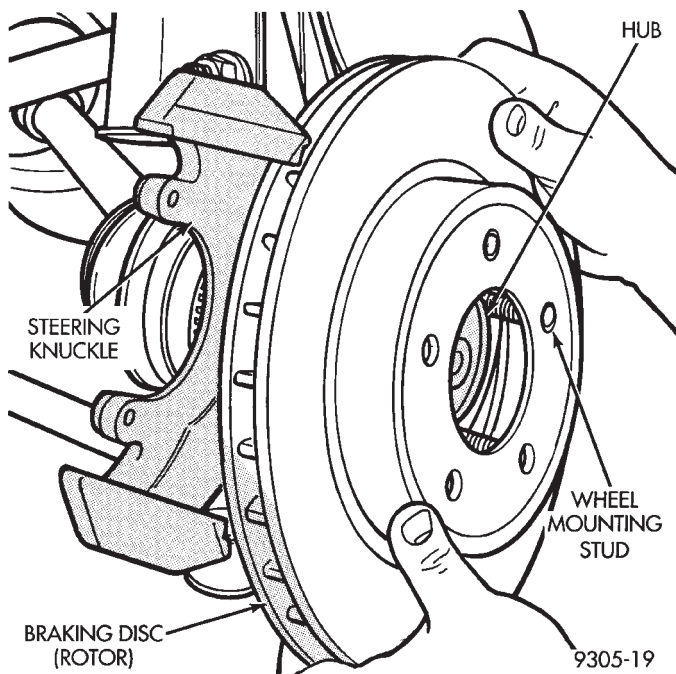

Fig. 15 Installing Braking Disc
(10) Install the braking disk back on the hub and bearing assembly (Fig. 15).